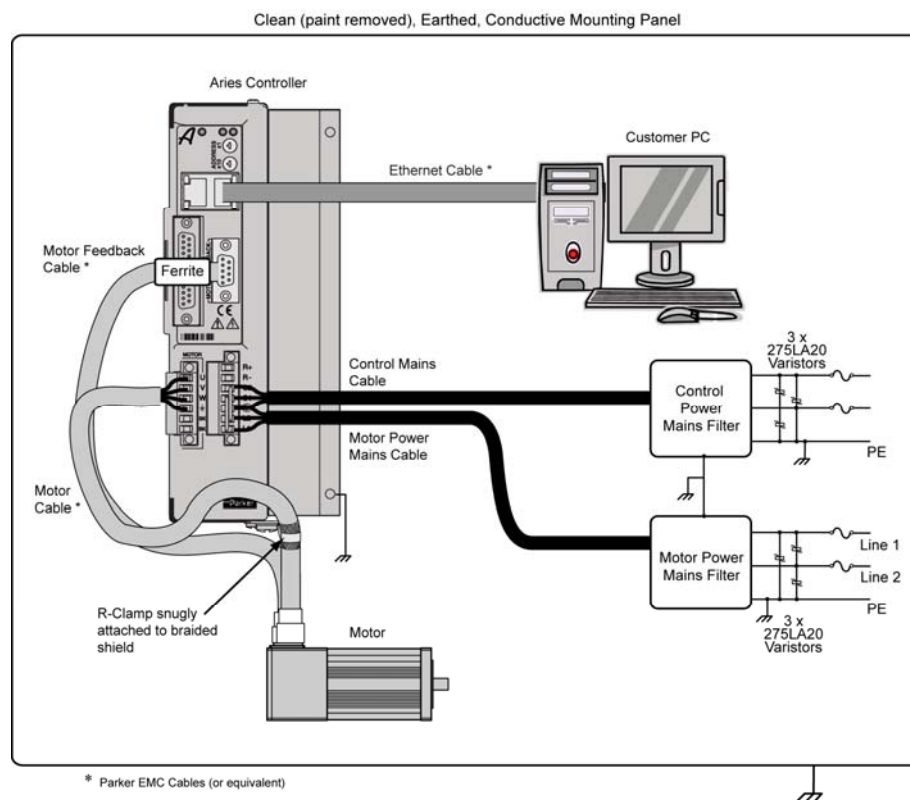

Figure 44 Typical LVD/EMC Installation
- If you mount the drive/controller in an equipment cabinet, *terminate cable braids (screens) as they enter the enclosure*. This can be easily accomplished using the “additional EMC installation hardware” shown Figure 44 on page 109.
There is only one exception: *the motor braid must return to the drive/controller's R-clamp* (located on the bottom of the drive/controller--see Figure 44 on page 109). *Do not* return the motor braid to any other location; its function is to return high-frequency chopping current back to the drive/controller. This may require mounting the connector on a sub-panel insulated from the main cabinet or using a connector having an insulated internal screen from the connector housing.
- Route cables as shown in Figure 44 on page 109.
Figure 44 illustrates a typical panel installation of the drive/controller that meets LVD and EMC requirements.